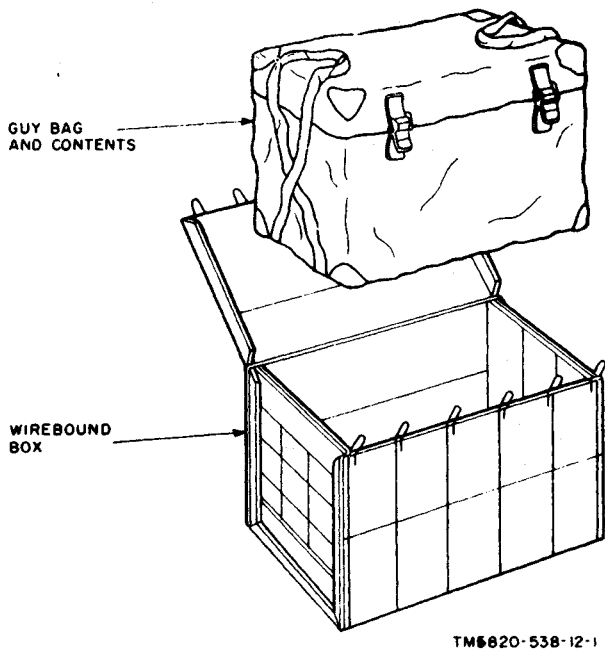

Figure 2-1. Typical packaging, guy bag.
a. *Packaging Data.* When packed for shipment, the components of the AB-577/GRC are packed in wooden boxes or crates as shown in figures 2-1 through 2-3. The components of the MK-806/GRC are packed in a similar manner. The packaging data is given in the following chart: